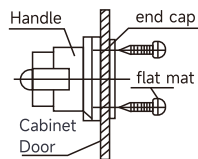

Figure 28
(6)As shown in Figure 28, use the two self tapping screws and flat washers attached with the machine to fix the disc end cover (on the inner side of the cabinet door) and handle (on the outer side of the cabinet door) to the opening of the cabinet door. During installation, the handle should be in a horizontal position and indicate "0" position.